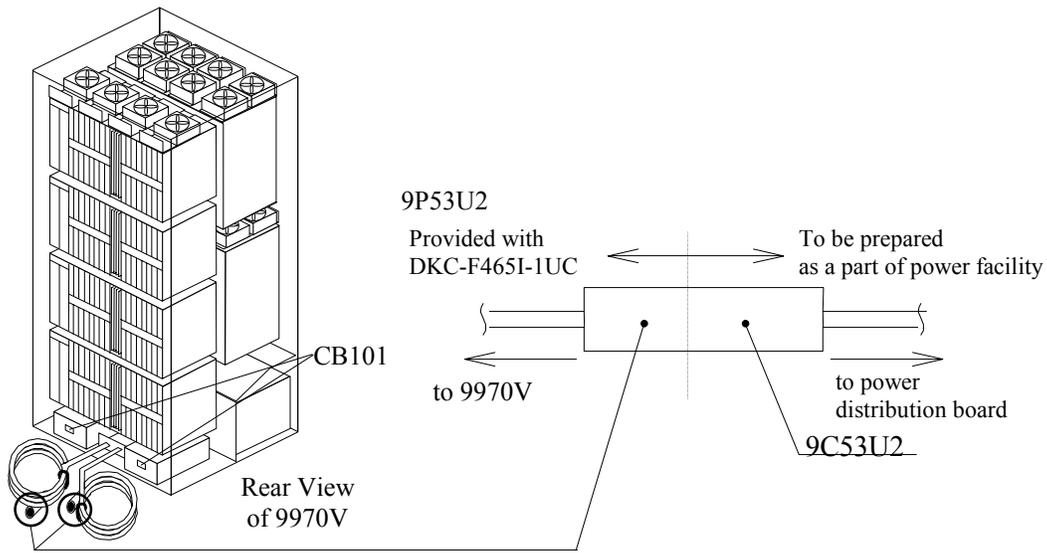

Figure 5.20 Power Plugs for a Single-Phase 9970V Subsystem (USA)
- Figure 5.20 illustrates the power plugs for a three-phase 9970V subsystem (USA).